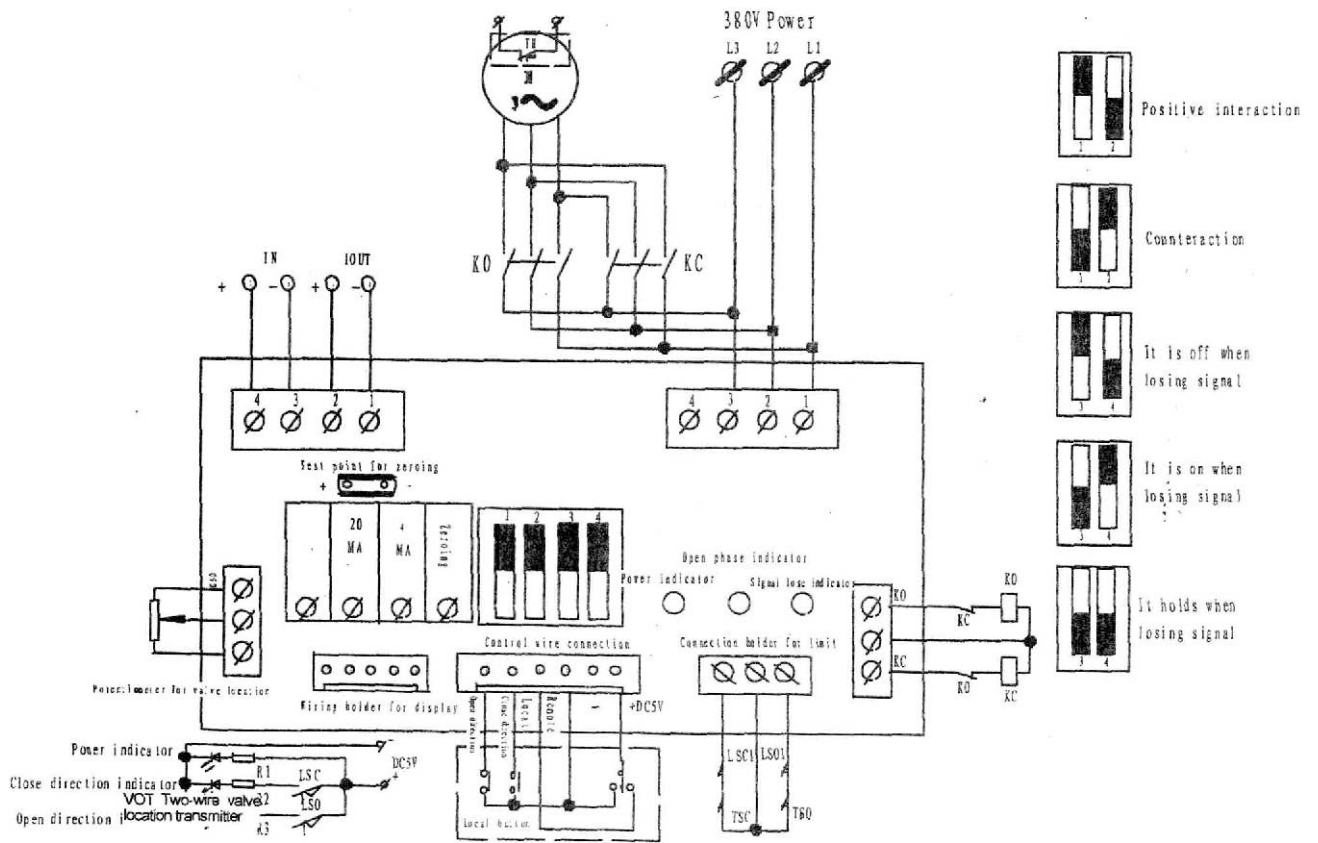

Figure 12
5.8.3 Refer to the Figure 12 for the schematic diagram of electric control of integral adjusting type and explosion-proof integral adjusting type.